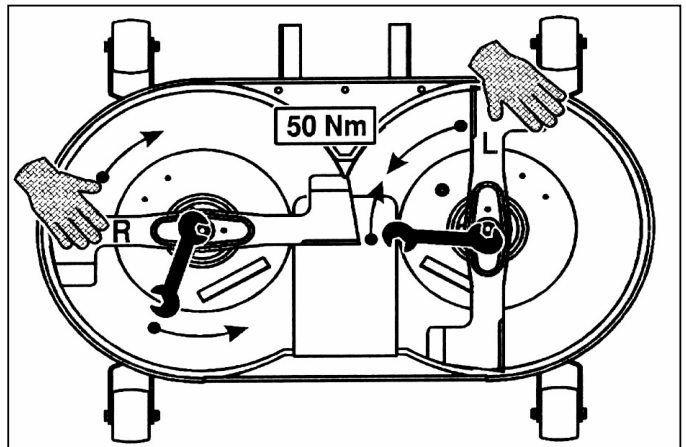

Fig. 32
As soon as the blades strike any solid object the shear pins will break. Immediately stop the engine! Check the blades! Replace the broken shear pins only with factory originals. For installation refer to Fig. 32. Check to make sure that all blade mounting bolts are tightened.
2. When replacing the blades, be sure all parts are reassembled in proper order and securely tightened, or severe vibrations will occur (See Fig. 32). Bent tip edges of blades must be toward top of the mower deck, or blades will not cut.
SHEAR PINS (Fig. 32)